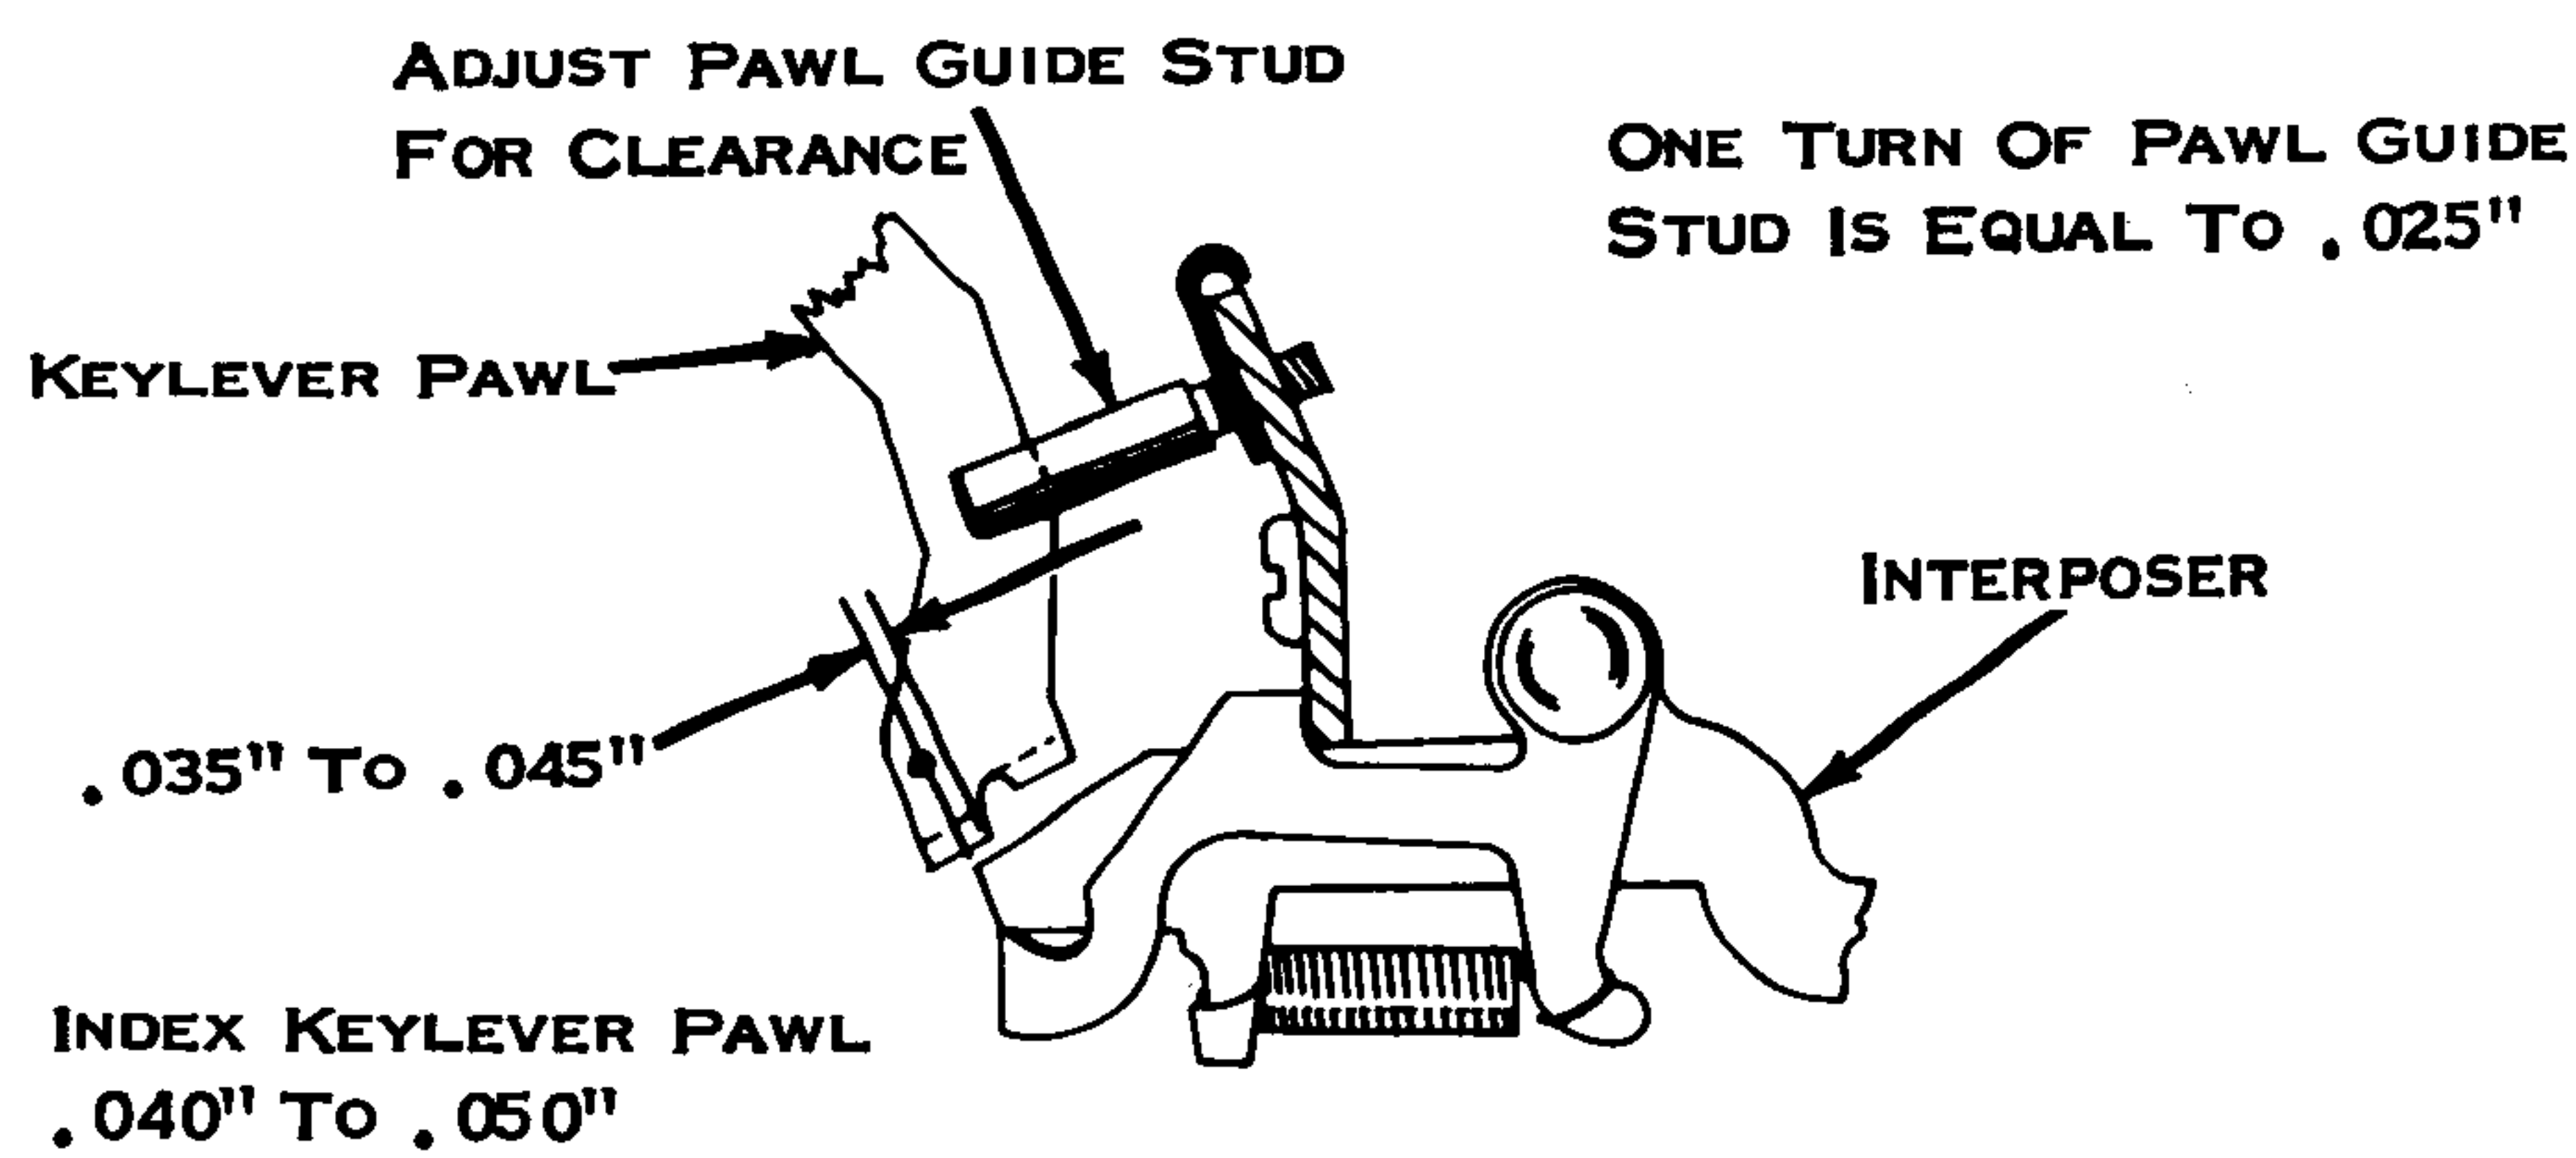

Figure 122. Keylever Pawl Overlap
4. Keylever Pawl Overlap (Fig. 122) - Adjust keylever pawl guide stud so keylever pawls overlap their respective interposers by .035" to .045" (except index pawl which should overlap .040" to .050") with both parts at rest. NOTE: Recheck individual keylever to interposer clearance after this adjustment.